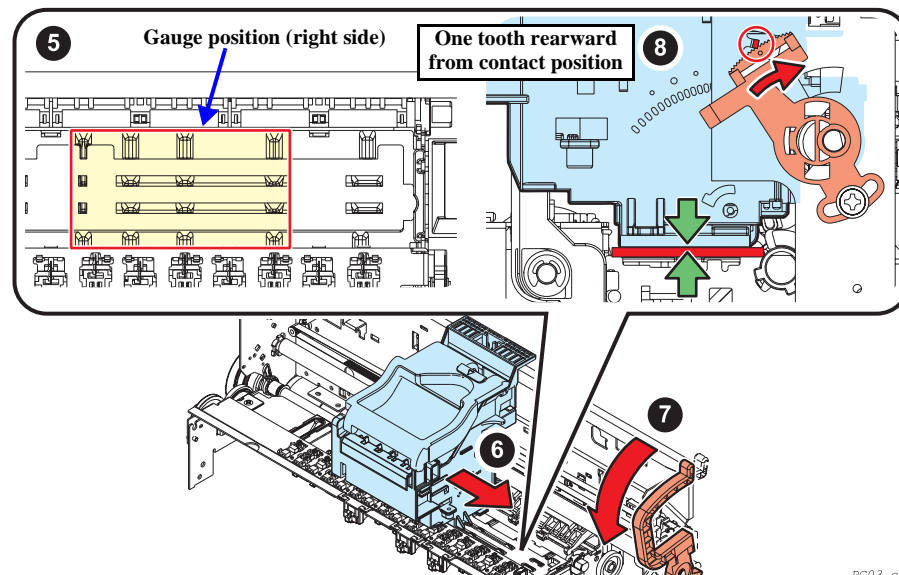

Figure 5-3. PG Adjustment (Right Side)
5. Place the gauge on the right side of Upper Paper Guide. (See Figure 5-3)